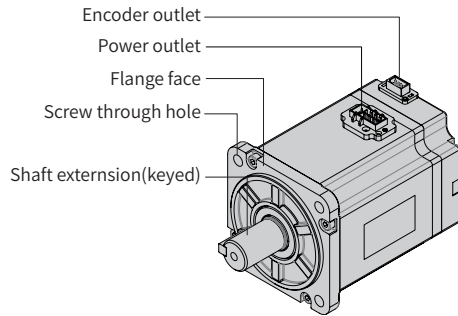
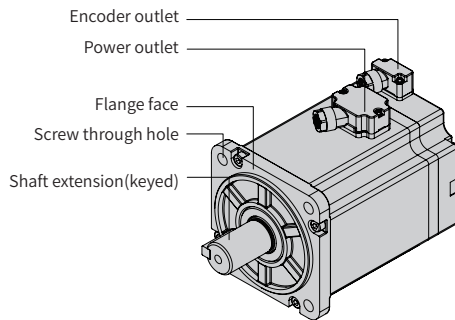

Figure 1-2 Components of terminal-type motors
Figure 1-3 Components of lead wire-type motors
- See Figure 1-2 and Figure 1-3 for details on frame sizes 40, 60, and 80.